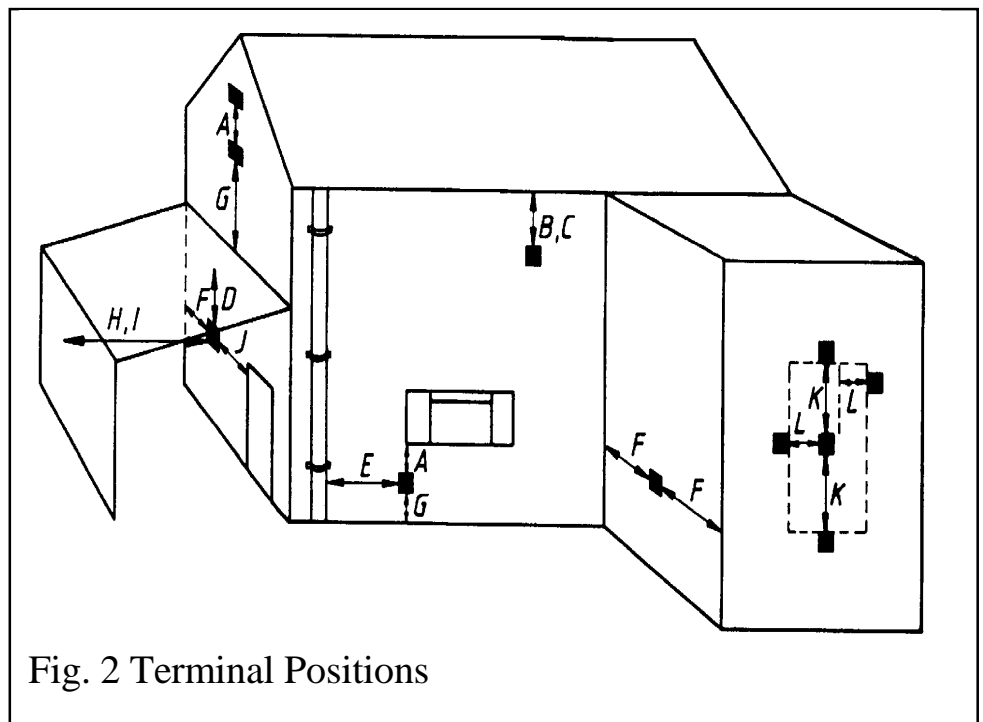

Fig. 2 Terminal Positions
2.12 Minimum allowable distances from the terminal are shown in figure 2 & table 1.